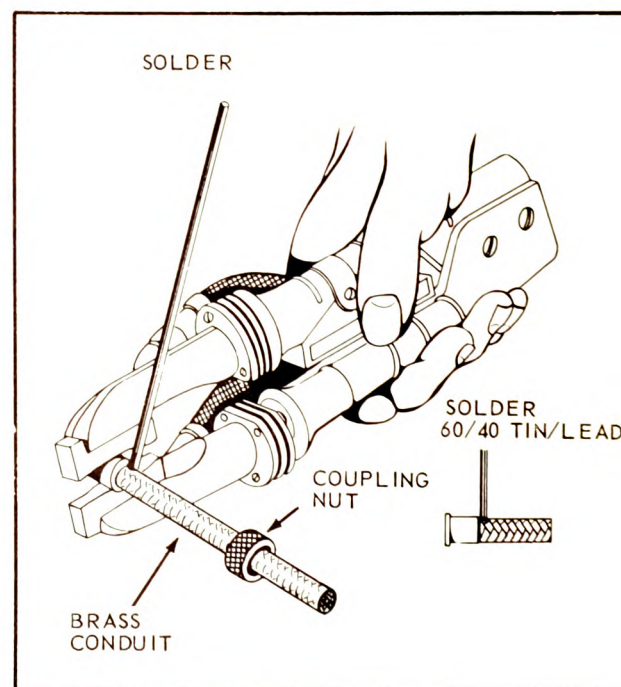

Figure 9-22. Soldering Ferrule to Brass Conduit
e. Solder ferrule to conduit with electrical resistance unit as shown in Figure 9-22, using rosin core 60/40 tin-lead solder. Fill with solder until there are no blow holes between ferrule and conduit, and the exterior is smooth.